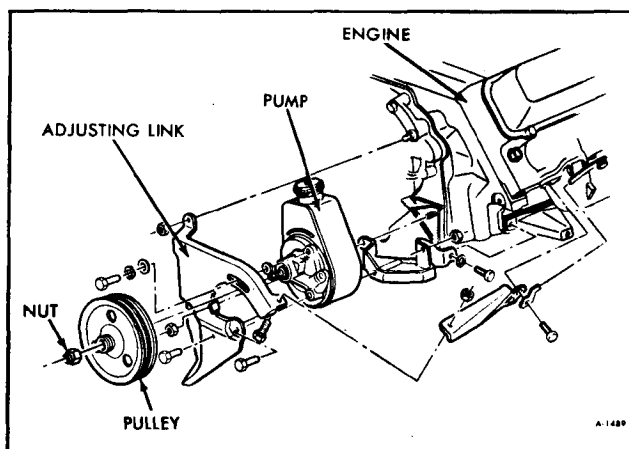

Figure 7-Pump Installation
REMOVAL OF PUMP (FIGURE 7)
3. Remove power steering pump mounting bolts and nuts, and upper left venturi bracket. (See figure 7).
INSTALLATION OF PUMP (FIGURE 7)